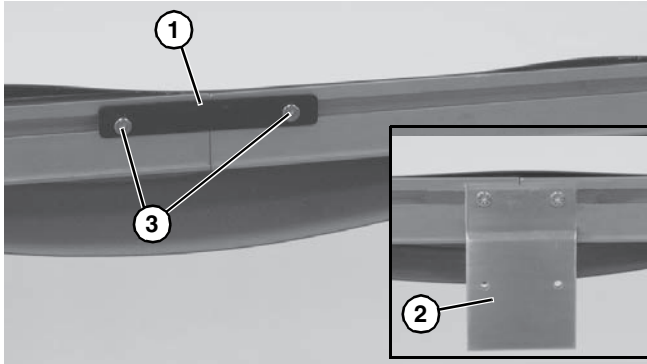

Figure 7
- Join conveyor sections and install frame connector plates (**Figure 7, item 1**) or connector/mount brackets (**Figure 7, item 2**) and screws (**Figure 7, item 3**) on both sides as indicated. Tighten screws to 60 in-lb (7 Nm).